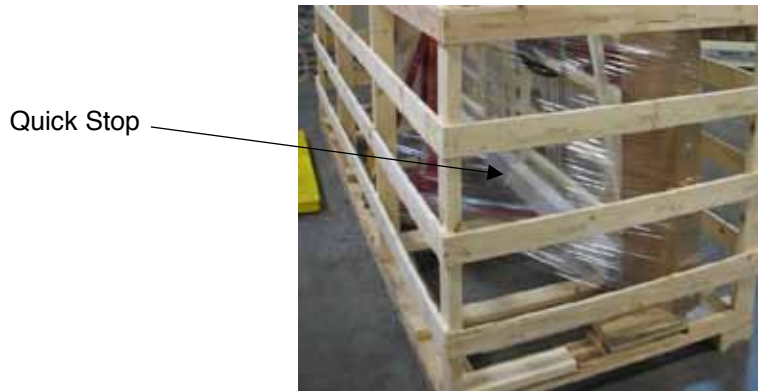

Figure 14: Quick Stop
1. Remove Quick Stop, and aluminum angle extrusion, from back of saw frame. It was temporarily attached to the back of saw frame for safe shipment (Fig. 14).